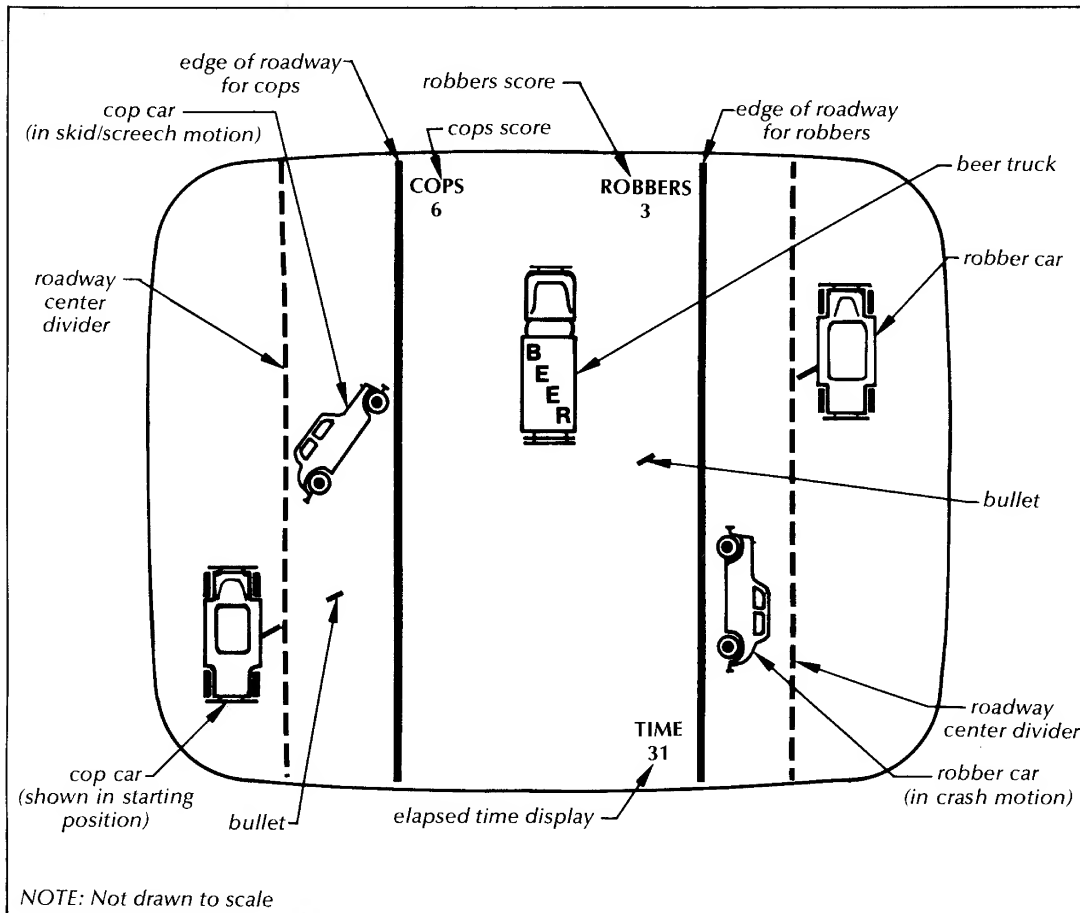

Figure 3-2 Typical Picture During a Play Sequence
**3.2.3 PICTURE SEEN BY PLAYERS:** The game's composite video signal is constructed to produce only two video levels (white and black), instead of the more or less continuous shades of gray seen on a home TV screen. Figure 3-2 shows a typical picture that players would see during a play sequence and identifies the objects in it. The picture produced at the face of the TV tube is a mirror reversal of that shown in the figure. Note that the top view of a car is shown when it is capable of moving and firing bullets, but that side views are shown when it is in skid/screech motion and in crash motion. Certain messages written in alphanumeric characters can also appear on the TV picture from time to time during game operation.
After the one second has elapsed, this message disappears and the game's next response is to produce a picture similar to that of Figure 3-2. Also the participating player controls are now enabled and the game sounds begin to be produced.